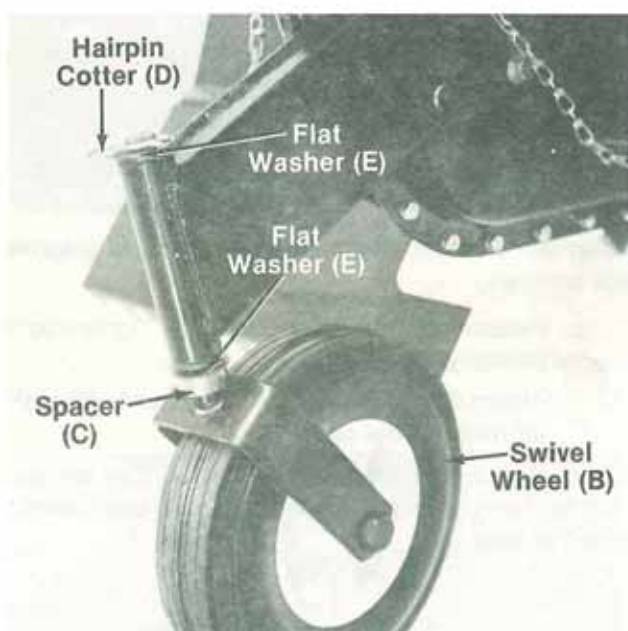

FIGURE 11.
11. Place spacer over swivel wheel shaft (B). Place one flat washer over swivel wheel. Place swivel wheel in position on tiller. See figure 11. Next, place other flat washer (E) over swivel wheel shaft and secure with hairpin cotter (D). See figure 11.